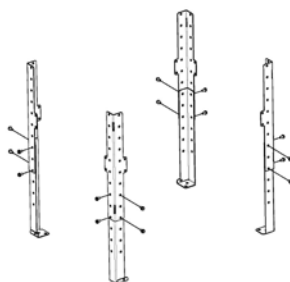

Fig. 31 - Montar as pernas
- Compor as 4 pernas e fixá-las com os parafusos (ver **Fig. 31**).